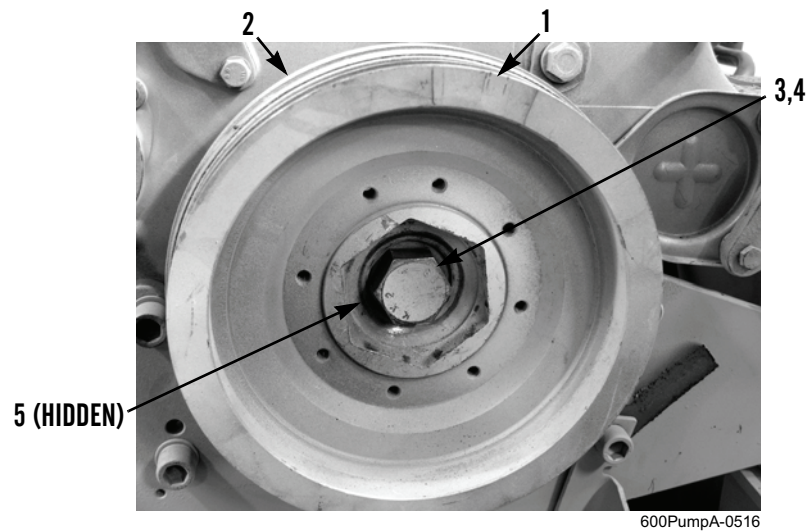
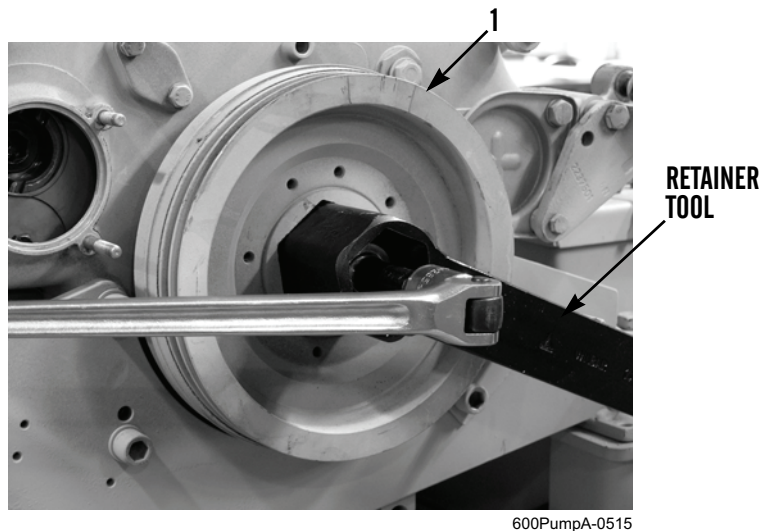

Figure 5. V-Belt Pulley and Vibration Damper.
Figure 6. Retainer Tool.
3. Install pulley (Figure 5, Item 1) and vibration damper (Figure 5, Item 2) as an assembly, washer (Figure 5, Item 4), and bolt (Figure 5, Item 3) on crankshaft (Figure 5, Item 5).
4. Hold pulley (Figure 6, Item 1) with retainer tool and tighten bolt (Figure 5, Item 3) to 37 lb-ft (50 Nm). Tighten an additional 210 degrees.